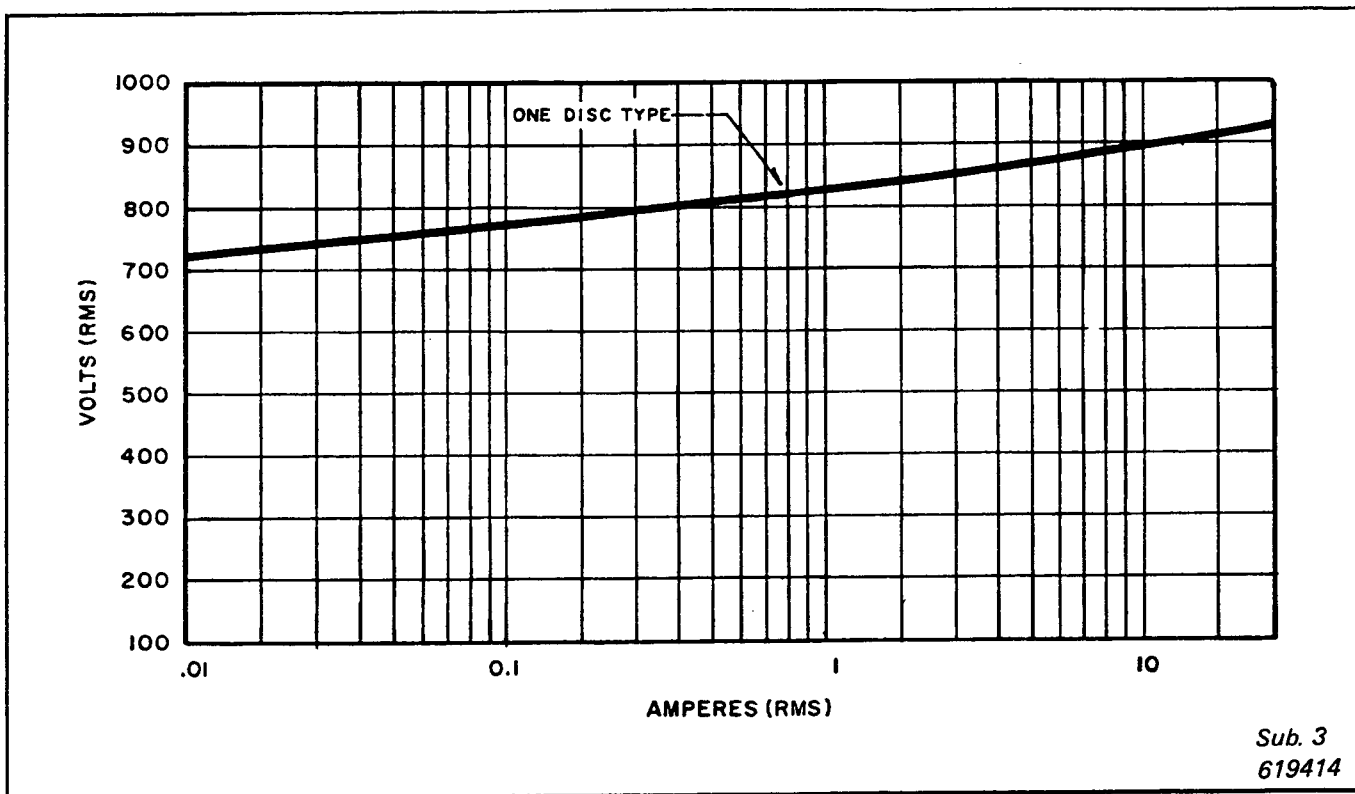

Fig. 4. Typical Volt-Ampere Characteristic of Varistor in Type KAB Relay (RMS).
c) To determine the minimum fault current required to operate the relay at the setting of 266 volts, assume that, from the ct saturation curve,  $I_e = 0.045$  amp at 266 volts. from Figure 4,  $I_V < 0.01$  amp at 266 volts (RMS) and may be ignored.